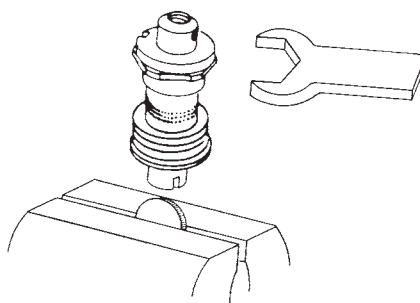
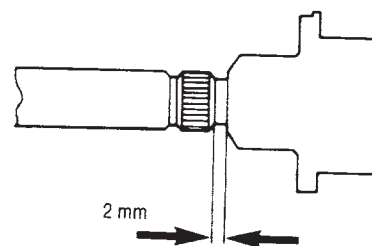

FIGURE 3
FIGURE 6
1. Unscrew the servo valve (15).
2. Unscrew the stop screw (10) using a 1.5mm allen wrench and remove the valve tube (13). Remove the O-rings (14, 12). Make sure the sealing surfaces are not damaged.
3. Remove the rubber plate (11).
4. To open valve housing place a 25¢ coin or washer of similar dimensions in a vise as shown in figure 3. Lower the valve housing slot onto coin or washer. Use a 24mm open end wrench, or 8 inch adjustable wrench on the wrench flats to loosen housing.
3. Grease the sleeve with a very thin coating of silicone. Install the sleeve holder (7) and the sleeve (6), or the newer sleeve and holder assembly (31) into the cleaned valve housing (4).
4. Place the O-ring (8) in the groove of the sleeve holder (7). Lubricate the thread. Install the valve housing nut (9).
5. To close valve housing place a 25¢ coin or washer of similar dimensions in a vise as shown in figure 3. Lower the valve housing slot onto coin or washer. Use a 24mm open end wrench, or 8 inch adjustable wrench on the wrench flats to tighten housing.
6. Install the O-rings (12, 14) on the valve tube (13). Grease the threads and the O-rings lightly.
7. Screw in the valve tube (13) until about .078" (2mm) space remains (if you don't have a .078" gauge or micrometer the edge of a U.S. nickel can be inserted as a gauge). (See Fig. 6)
A. Valve tube (13) may be adjusted too far in from diaphragm. See the valve tube (13) adjusting procedure on page 5.
B. In rare instances the regulator hisses from the second stage unless the valve tube (13) is screwed all the way in with no gap (when compared to fig. 6 on page 5). This seems to force the technician to set the regulator up to be hard breathing. The problem under these circumstances is often the very small spring attached to the backside of the purge bar (28). This spring should have a slight gap between it, and the diaphragm. If it is too long, it will be in constant contact with the diaphragm (25), pushing the diaphragm towards the servo valve (15) as you screw the valve tube inward away from the diaphragm. To correct